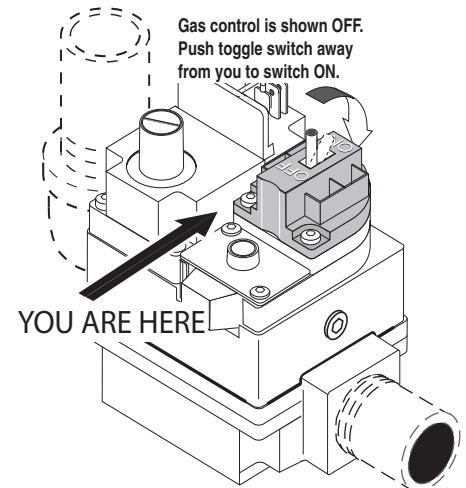

Figure 37.
6. **Toggle-Style Valve:** Pull toggle toward you to turn gas off , see Figure 37.
7. Wait five (5) minutes to clear out any gas. If you then smell gas, **STOP!** Follow “B” in the “Before Start-up” instructions (page 42). If you don’t smell gas, go to the next step.
4. **Toggle-Style Valve:** Pull toggle toward you to turn gas off, see Figure 37.